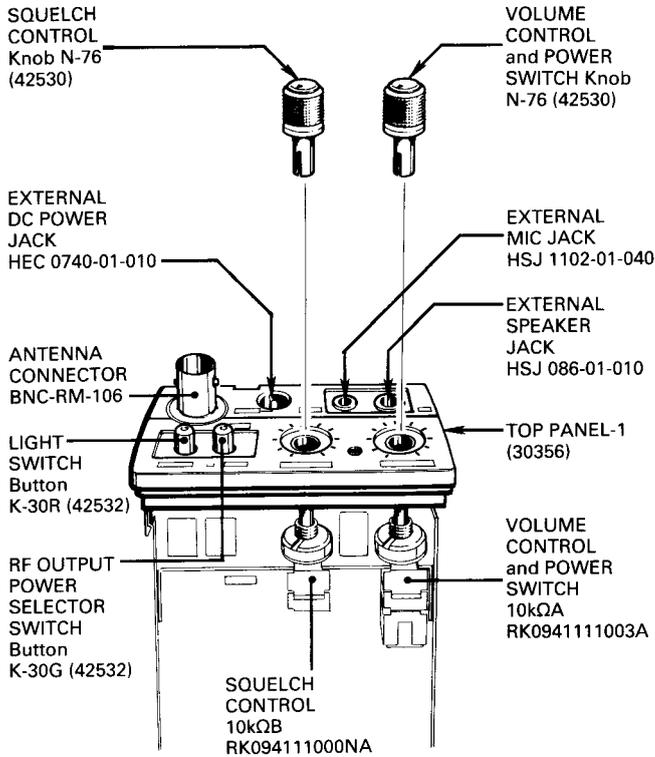
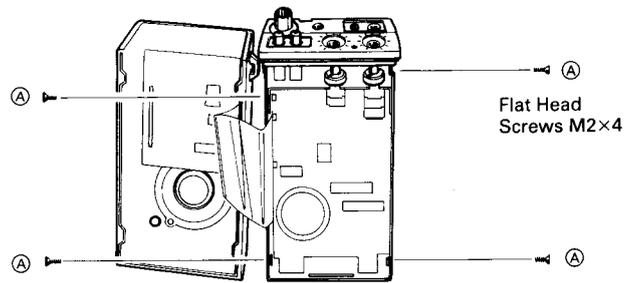

Fig. 5-1-5
Fig. 5-1-6
- To see the foil sides of the MAIN and PLL UNITS, remove the SQUELCH CONTROL and VOLUME CONTROL and POWER SWITCH knobs as shown in Fig. 5-1-5. Remove the four screws (A) on the sides of the inner frame as shown in Fig. 5-1-6.